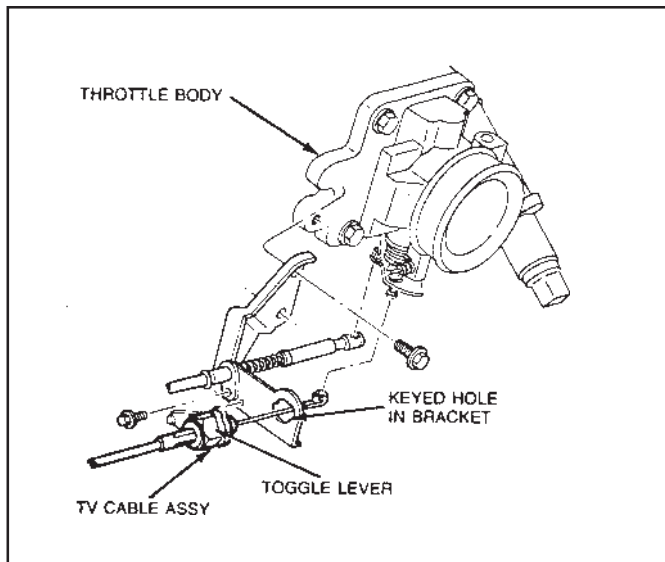

Figure 11
The throttle valve (TV) control cable system consists of a cable attaching stud on the throttle body throttle lever, the TV control cable assembly, the external TV control lever on the transmission, and the cable mounting brackets at the throttle body and transmission. (See Figs. 11 & 12.)